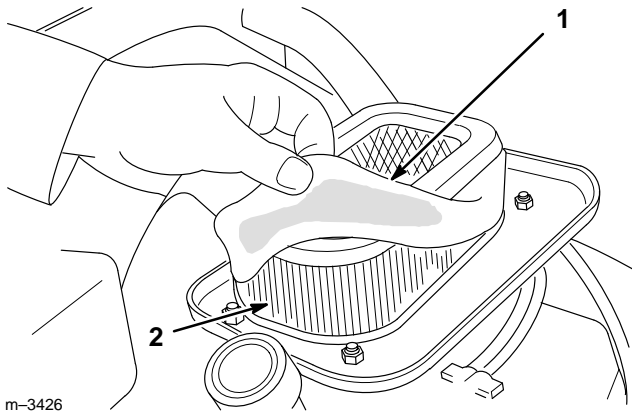

Figure 24
5. Remove the elements and separate the foam element from the paper element (Fig. 24).
1. Carefully slide the foam element onto the paper air cleaner element (Fig. 24).